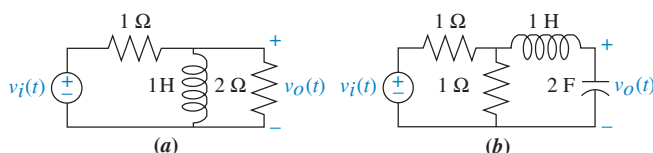

FIGURE P2.3
17. Find the transfer function,  $G(s) = V_o(s)/V_i(s)$ , for each network shown in Figure P2.3. [Section: 2.4]